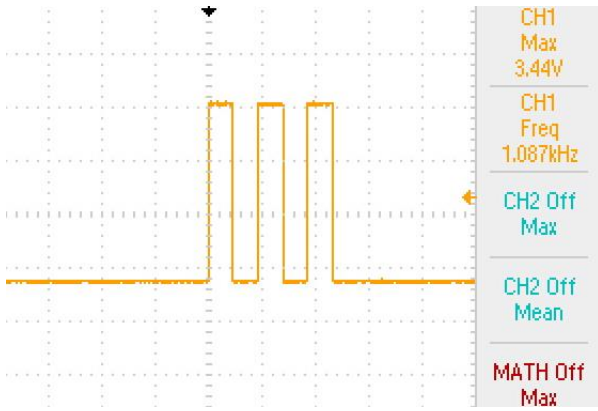
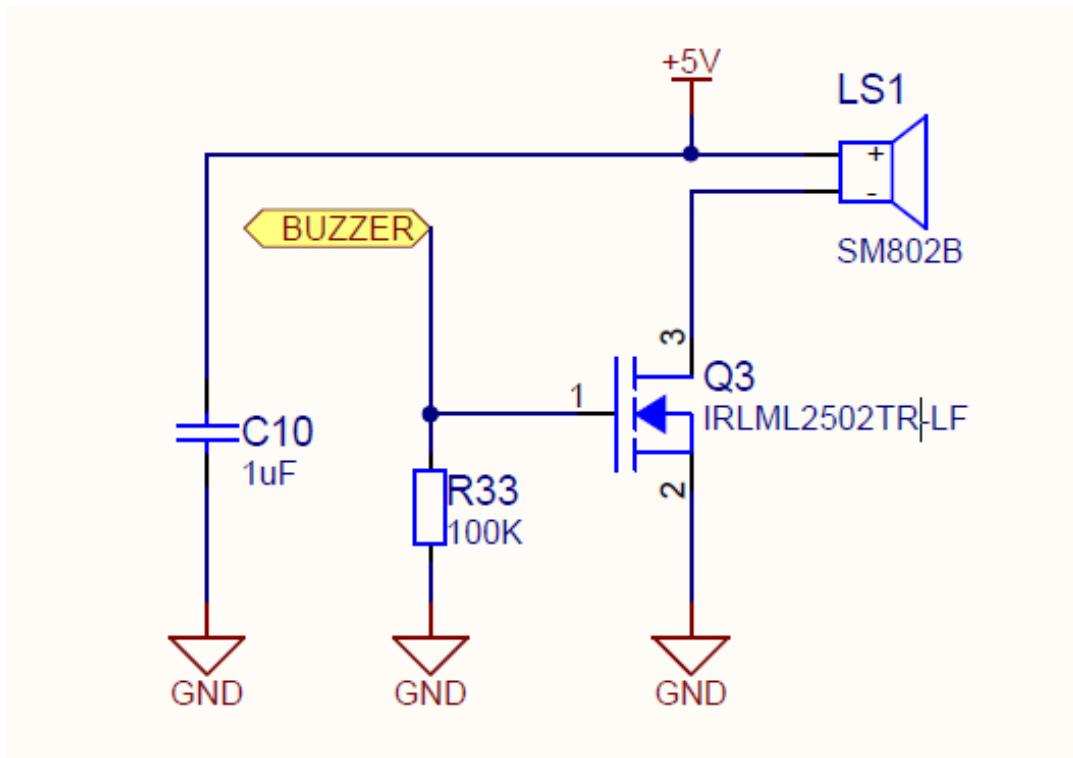

Figure A1. 1kHz Square Wave Burst (DC Bit Low, Perm Bit Low, Burst Bit High)
Figure A5. Buzzer application circuit schematic
**Table A1** gives an overview and description of the configuration register for the buzzer pin. **Table A2** gives more detail on the state of the buzzer pin with respect to a given bit configuration of the buzzer register. **Figures A1 to A4** show the measured signal across the buzzer pin for the respective buzzer register configurations given in **Table A2**. An application schematic of how to connect a buzzer module to the buzzer pin is shown in **Figure A5**.